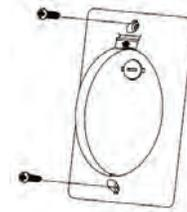

Fig. 25
Step 1. Select a location to install your handset control holder, you could install the holder as shown. (Fig. 25)